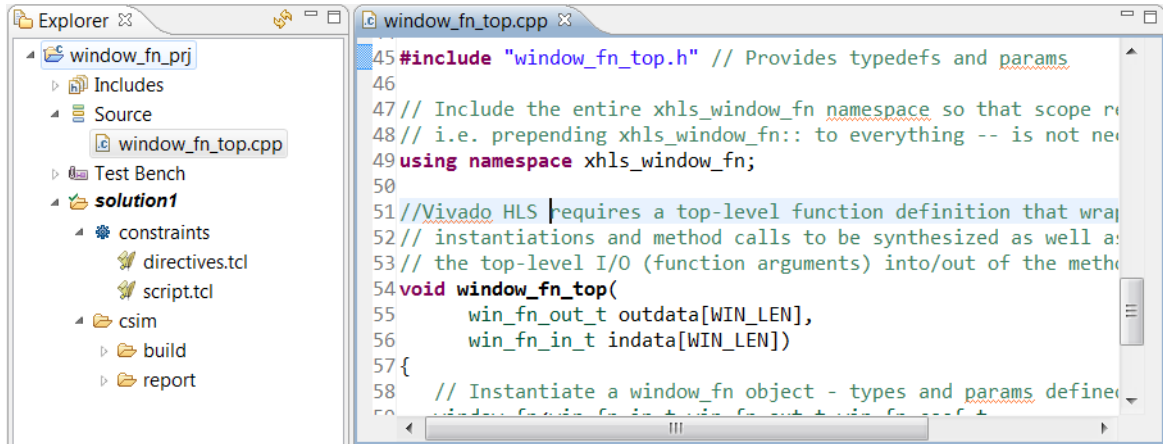

Figure 5-4: C Code for Arbitrary Precision Types Lab 1
1. Open the **Source** folder in the Explorer pane and double-click `window_fn_top.cpp` to open the code as shown in Figure 5-4.